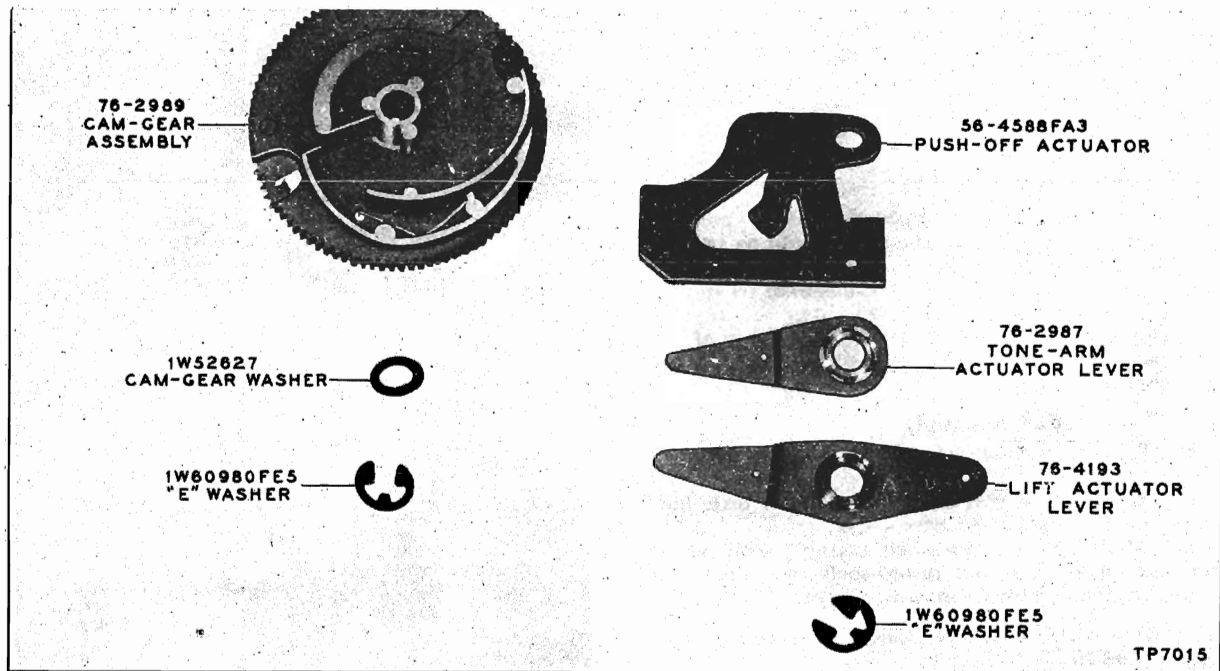

Figure 25. Cam-Gear Assembly and Actuator Levers
- d. Slide cam gear off spindle. The cam-gear assembly is shown in figure 25.
- e. Remove upper actuator lever from stud, and disengage long link, Part No. 56-4606FA3. The actuator-lever assembly is shown in figure 25.